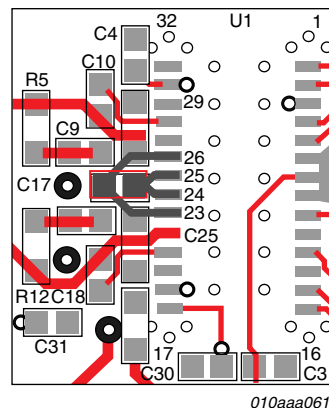

Fig 31. HF decoupling STAB1/2 C17
- Place the HF decoupling capacitor STAB1/2 voltage close to the IC (see Figure 31).